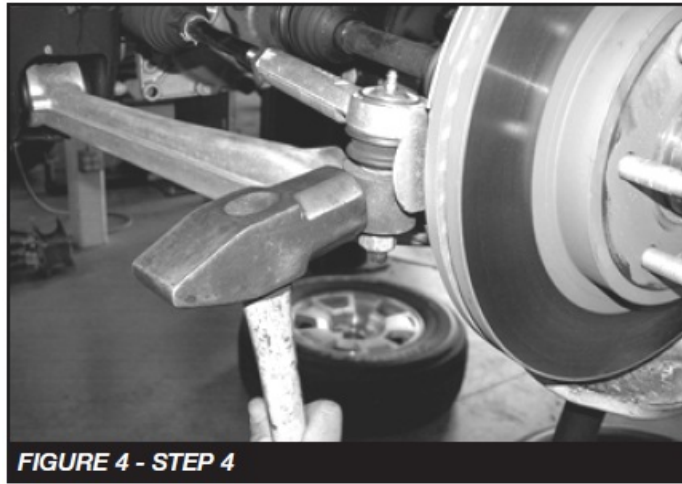

FIGURE 4 - STEP 4
4. Loosen the tie rod nut and strike the knuckle with a hammer till it comes loose. Save all hardware (Use care not to hit threads.) Disconnect the factory swaybar end links and save them with the hardware. SEE FIGURE 4